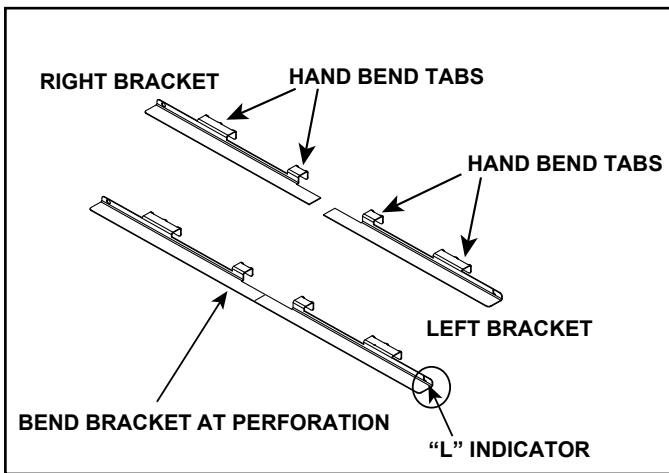

Figure 11.2 Separate Fan Bracket into Left and Right Brackets
1. Locate the fan brackets that are enclosed in the manual bag assembly. Separate into left and right brackets by bending the bracket at the perforation until it breaks and the pieces are separated. See Figure 11.2.
2. Bend the hand bend tabs on the right and left brackets to appear as shown in Figure 11.2.